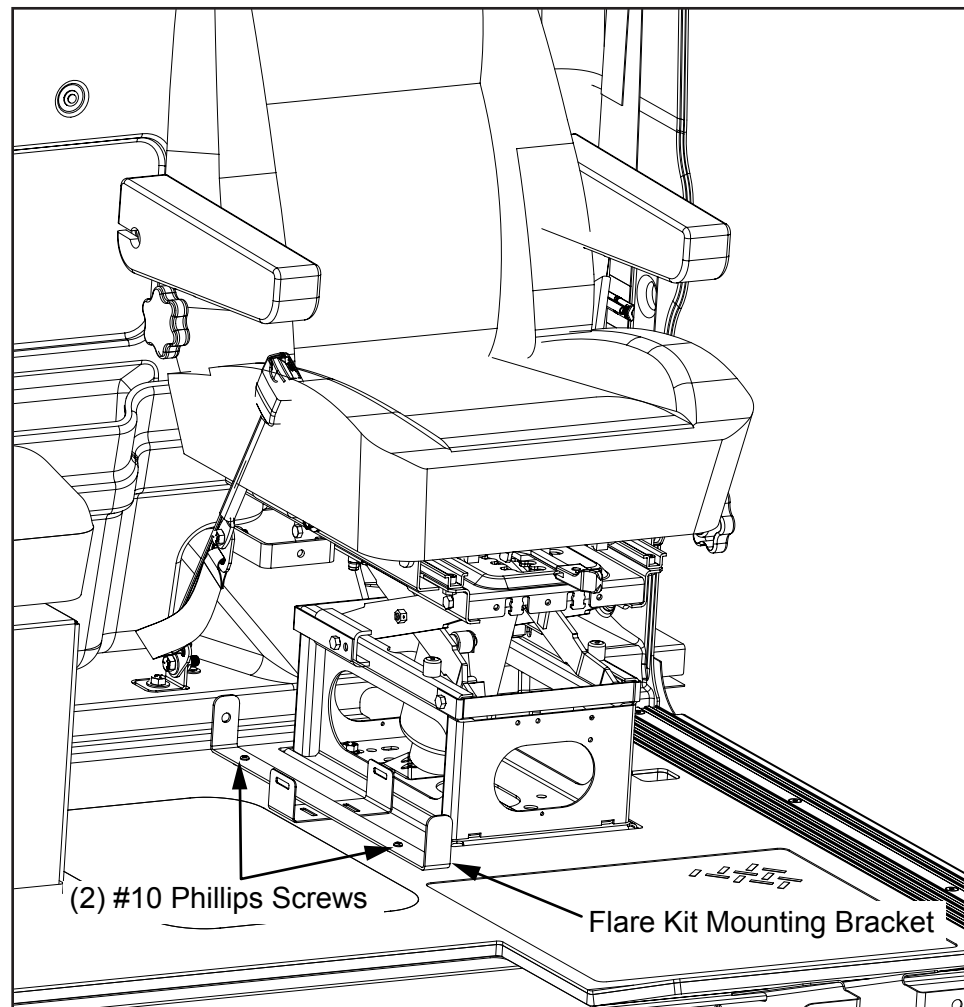

Figure 4
5. Remove (2) #10 Phillips screws from the flare kit bracket and set aside the screws and the bracket for reinstallation (see Figure 4).